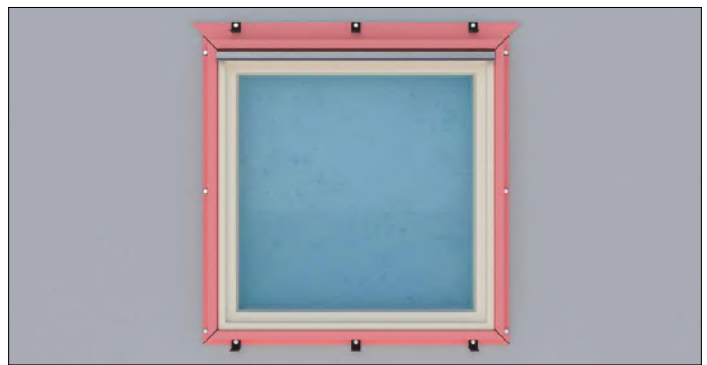

Figure 2
2. Cut and install P13 around the sill and jambs of the window and P41 for the head of the window. Miter at a 45° angle on all 4 corners of the window. On the head and sill, add P30 plank backers 2" from ends and 16" on center (Figure 2).